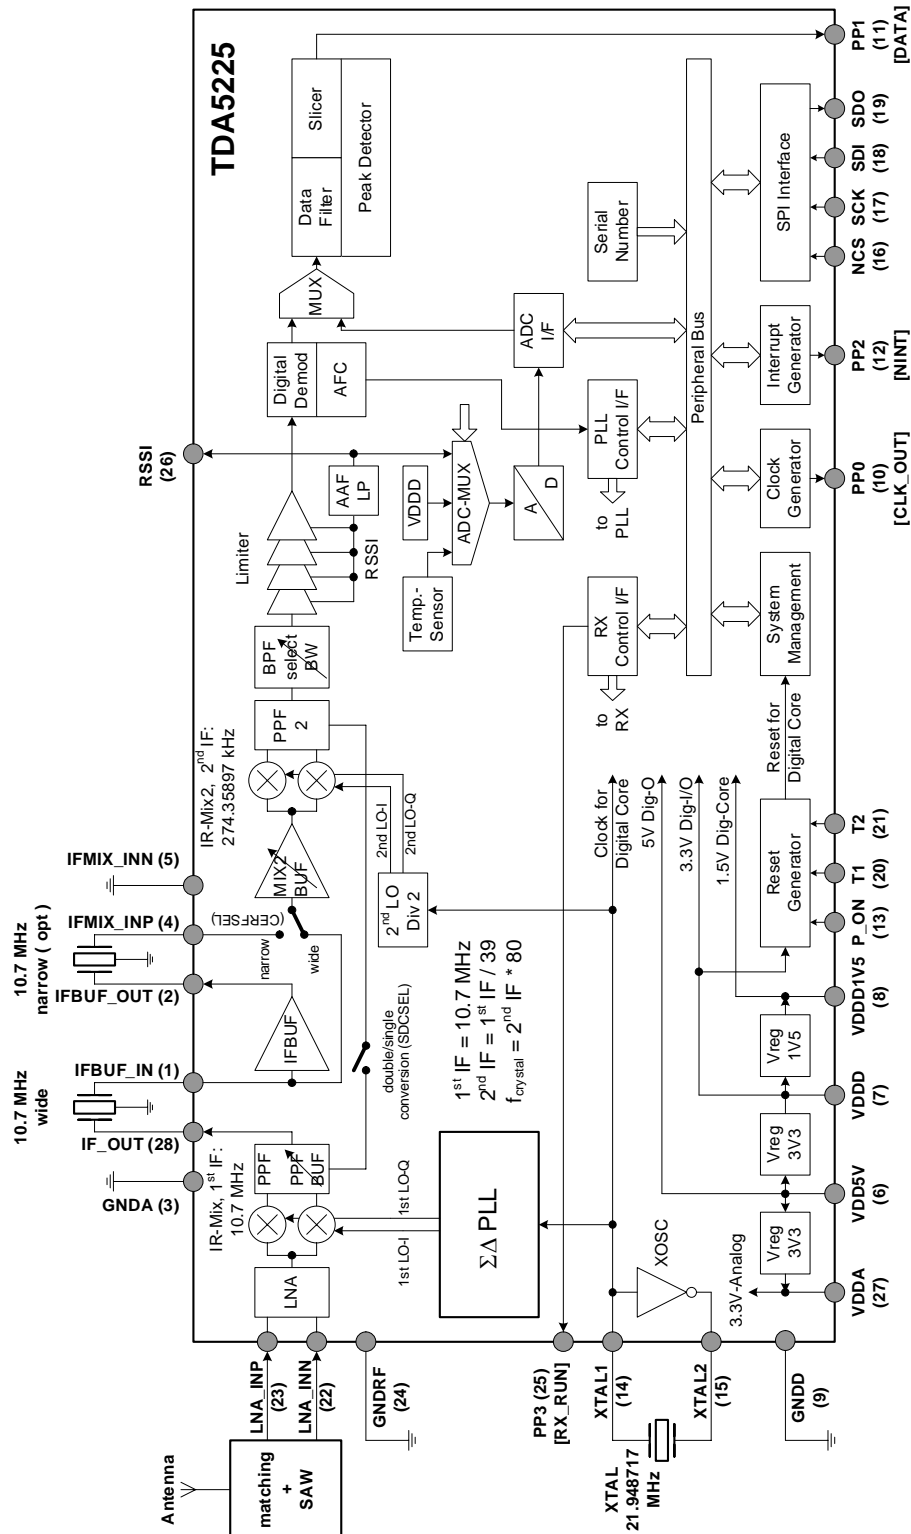

Figure 2 TDA5225 Block Diagram1)
1) The function on each PPx port pin can be programmed via SFR (see also Table 1). Default values are given in squared brackets in Figure 2.